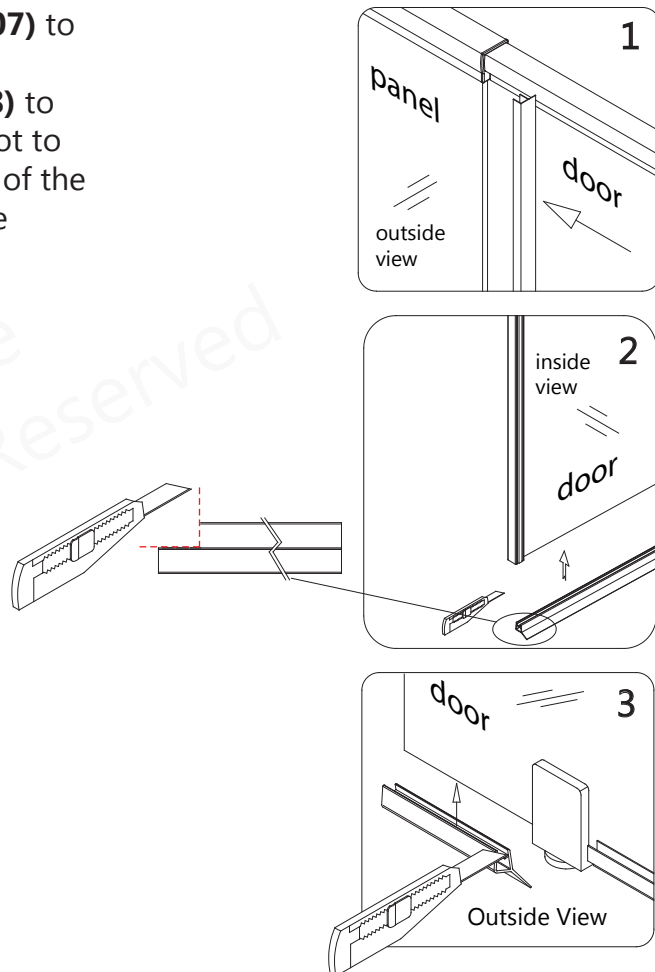

**Fig 11**
**11.** Drill holes into the aluminum profile of the **Door assembly (#02)** through the predrilled holes in the **Corner Profile (#10)** using an **Ø 1/8"** drill bit. Secure the Door assembly inside the **Corner Profile (#10)** using the **ST4.0 x 10 Pan head screw (#04)** with the raised white washers. Cover the exposed screw heads with the **Decorative Covers (#06)**. (**Fig 11**)